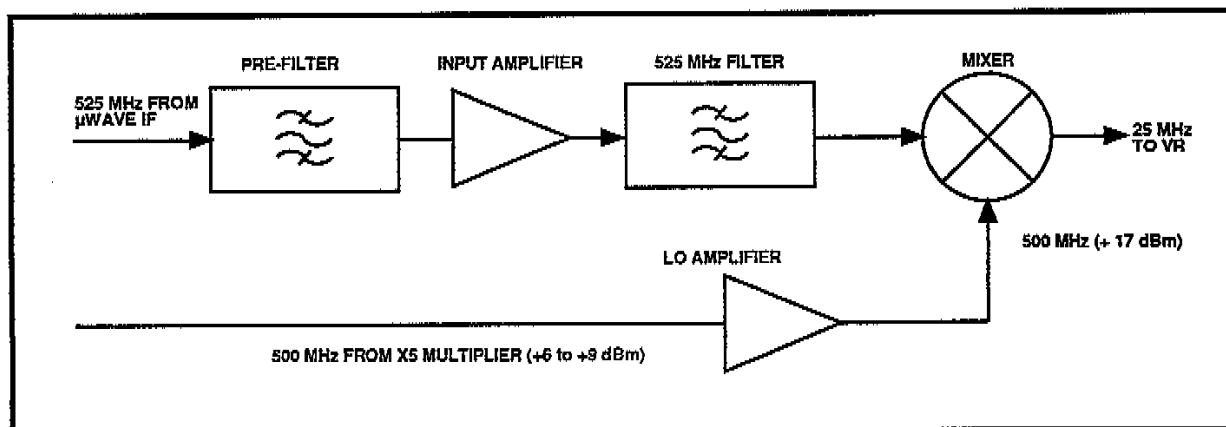

Figure 5-4. 3rd Converter (A14 525 MHz IF) Block Diagram.
Refer to Figure 5-4. The 3rd Converter (A14 525 MHz IF module) consists of the Pre-filter, Input Amplifier, 525 MHz Filter, and Mixer. This module mixes the 500 MHz signal from the X5 Multiplier in the A28 Period Counter with the incoming 525 MHz second IF signal to produce the 25 MHz third IF signal, which is applied to the Variable Resolution (VR) circuits. The 3rd Converter also fixes the bandwidth of the incoming 525 MHz signal at 10 MHz.